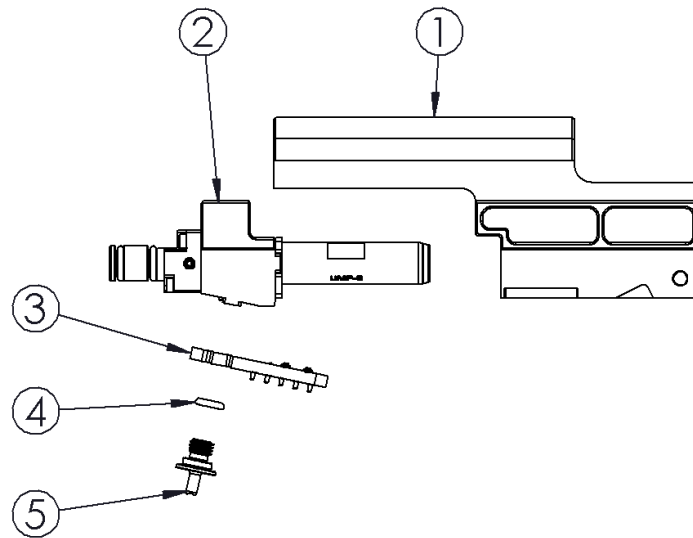
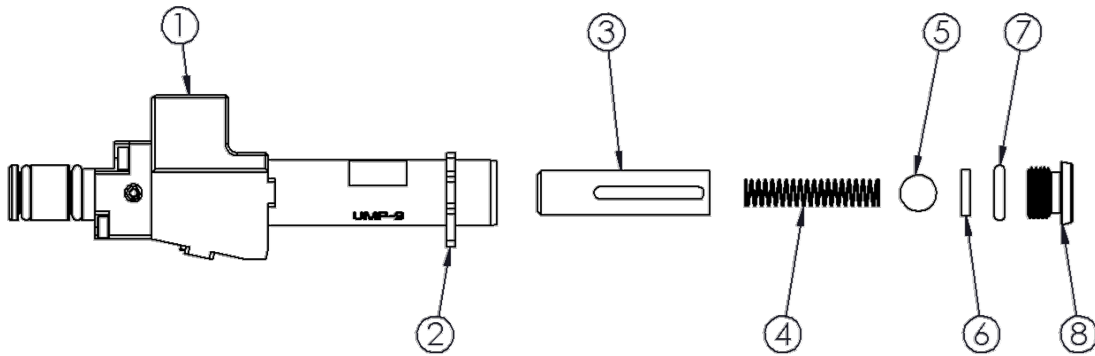

Figure 1: Recoil Kit Assembly
Figure 2: Charge Chamber Assembly
If a leak is experienced when the magazine is inserted into the weapon, and the leak is not coming from the magazine, then items #6 and #7 in Figure 2 and #4 in Figure 1 may be leaking and in need of replacing. If it is determined that a leak is occurring within the recoil kit, follow the steps below. If applicable. Remove the recoil kit from the weapon prior to proceeding.
- Use a 5/32 Allen Wrench to remove the charge chamber cap (Figure 2, #8).
- Use a small pick to remove the Endcap O-ring (Figure 2, #7) and the Charge Chamber Seal (Figure 2, #6). Inspect both items and replace if any damage/wear is present.
- Cover the open end of the charge chamber then rotate the charge chamber till vertical and allow the ball bearing, compression spring, and brass Insert (Figure 2, #5, #4, #3) to drop free. Inspect the compression spring. If the compression spring shows wear, damage, or if the ball bearing is wrapped into the coils, replace the compression spring. Contact the VirTra Service Department for further assistance.
Reassemble the weapon and test. If a leak is still experienced, use the following steps to replace item #4 in Figure 1.
- Use the Nipple Tool to remove the charge chamber nipple (Figure 1, #4).
- Remove the retaining plate (Figure 1, #5) and use a small pick to remove the 008 nipple O-ring. Inspect the O-ring and replace if any damage/wear is present.